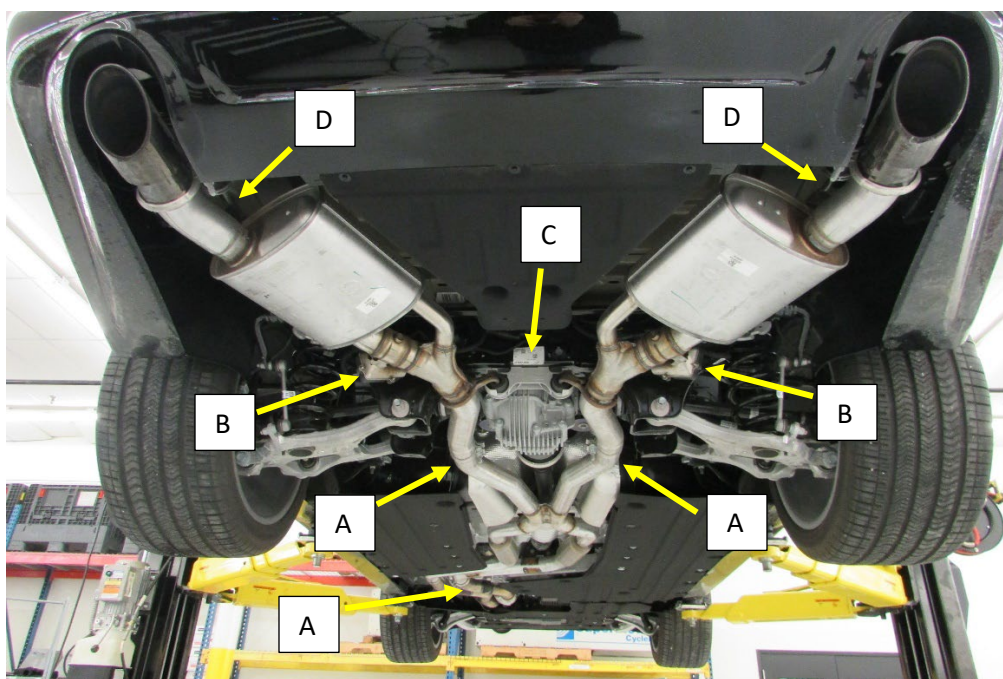

Figure.1
1. Apply penetrating oil to the 15mm nuts on the clamps at the factory X-pipe and two clamps at the muffler sections and loosen the clamps. Apply penetrating oil liberally to all three slip joints **(A)**. **Fig.1**
2. Unplug the electrical connector at each OEM Exhaust valve actuator motor just before the muffler **(B)**. **Fig.1**
4. Remove the exhaust hanger isolator assembly at the rear differential **(C)**. **Fig.1**
5. Remove the two bolts at each muffler frame hanger directly behind each muffler assembly on the tail pipe **(D)**. **Fig.1**
6. Remove the left and right muffler assemblies. **Fig.1**